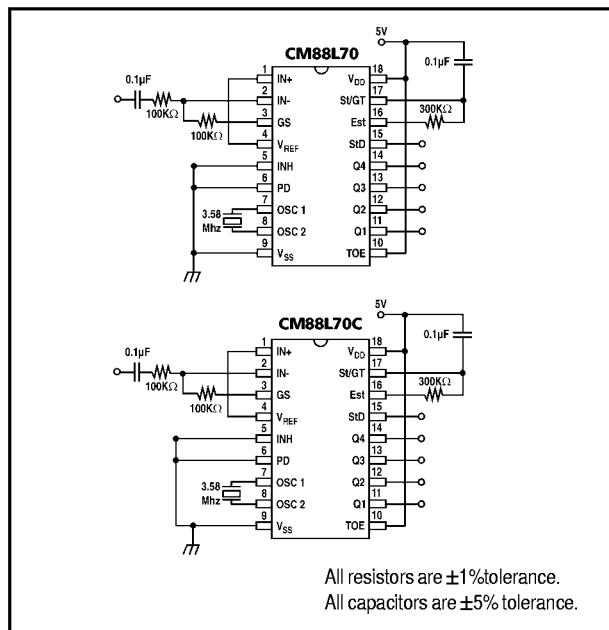

Figure 1. Single Ended Input Configuration
14. Referenced to Figure 1. Input DTMF tone level at -28 dBm.
The value of t_{DP} is a parameter of the device and t_{REC} is the minimum signal duration to be recognized by the receiver. A value for C of 0.1 μ F is recommended for most applications, leaving R to be selected by the designer. For example, a suitable value of R for a t_{REC} of 40 milliseconds would be 300K. A typical circuit using this steering configuration is shown in Figure 1. The timing requirements for most telecommunication applications are satisfied with this circuit. Different steering arrangements may be used to select independently the guardtimes for tone-present (t_{GTP}) and tone absent (t_{GTA}). This may be necessary to meet system specifications which place both accept and reject limits on both tone duration and interdigit pause.
In a single-ended configuration, the input pins are connected as shown in Figure 1, with the op-amp connected for unity gain and V_{REF} biasing the input at $\frac{1}{2} V_{DD}$. Figure 6 shows the differential configuration, which permits the adjustment of gain with the feedback resistor R5.